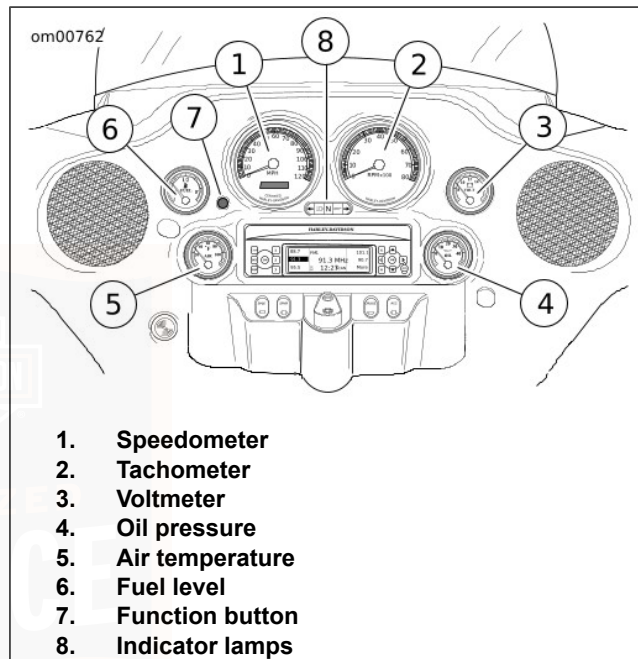

Figure 6. Instruments: FLHTCUSE
See Figure 6. The speedometer (1) registers miles per hour (U.S. models only) or kilometers per hour (international models only) of forward speed.
See Figure 6. The tachometer (2) measures the engine speed in revolutions per minute (RPM).
See Figure 6. The voltmeter (3) indicates electrical system voltage and is found on the front panel of the fairing. With the engine running above 1500 RPM, the voltmeter should register 13-14.5 volts with battery at full charge.
See Figure 6. The oil pressure gauge (4) indicates engine oil pressure and is found on the front panel of the fairing. Engine oil pressure will normally vary from 5 psi (34 kN/m²) at idle speed to 30-38 PSI (207-262 kN/m²) at 2000 RPM when engine is at normal operating temperature of 230° F (110° C).
See Figure 6. The air temperature gauge (5) indicates the ambient air temperature in degrees fahrenheit. This gauge is found on the front panel of the fairing.
See Figure 6. The fuel gauge (6) indicates the approximate amount of fuel in the fuel tanks.